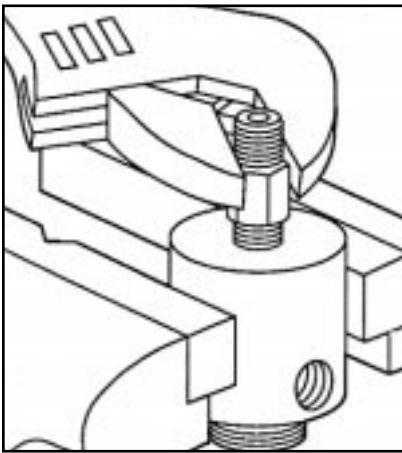

Figure 46
7. Use the same wrench to remove the suction check valve from the fluid cylinder. (Fig.46)